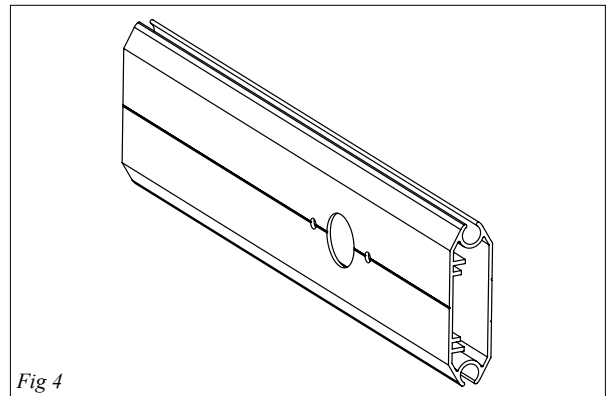

Fig 4
- 8) Drill holes in locking bar approximately 450mm from one end to take the lock (*fig. 4*).